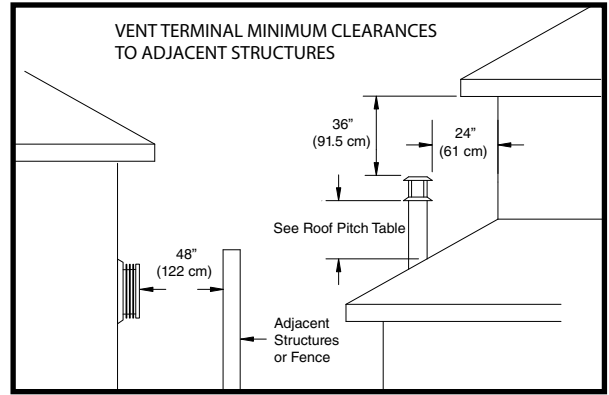
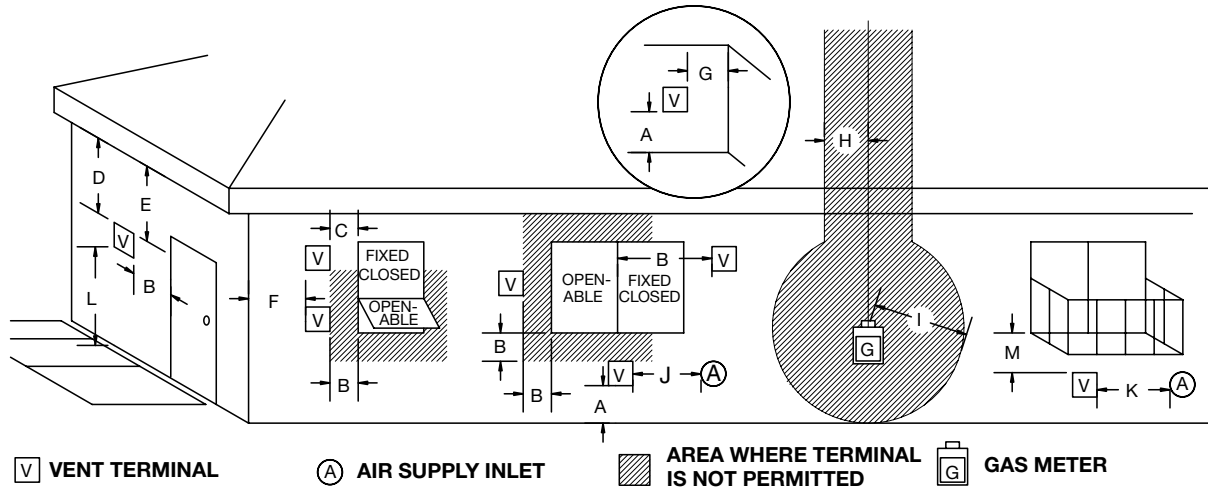

Figure 36: Vent roof clearance.
Figure 37: Vent terminal minimum clearances.
**NOTE: MINIMUM CLEARANCES TO THE VENT TERMINAL MUST BE MAINTAINED (see Figure 36 and Figure 37 on page 26).**
Minimum clearances to the vent terminal must be maintained as shown in Figure 36 & Figure 37. Measure clearances to the nearest edge of termination hood. **NOTE: Vent terminal must not be recessed.**